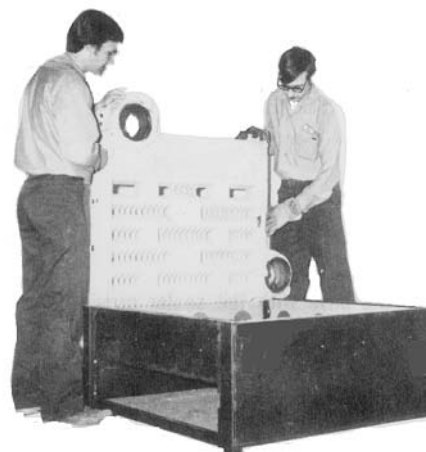

Figure 3.2: Placing the First Section on Base
1. Begin by placing the Left Hand End Section on the left end of the base. The upper flow port goes toward the front of the boiler as shown in Figure 3.2.